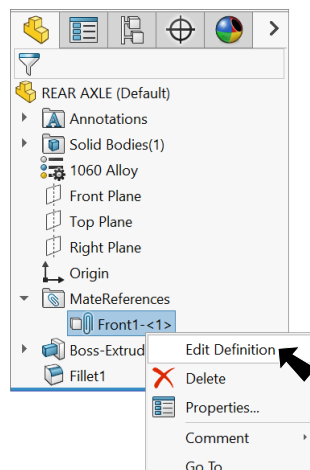

Fig. 13
Step 1. Expand **MateReferences** in the Feature Manager, right click **Front1** and click **Edit Definition** in the context toolbar, Fig. 13.